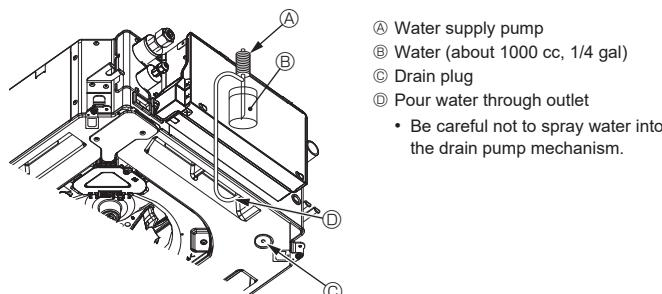

Fig. 6-10
- Point the remote controller towards the indoor unit receiver while following steps ③ to ⑧.
6.3. Check of drainage (Fig. 6-10)